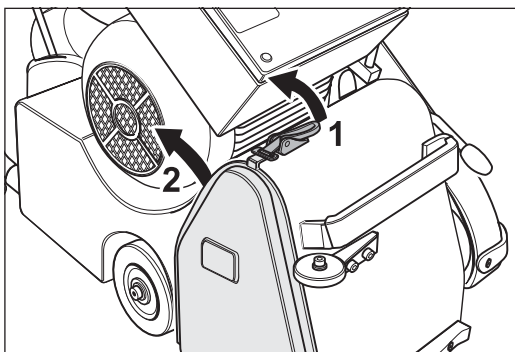

Fig. 75 Release the cover lock (1) and remove the side cover (2).
- 3 Release the cover lock (fig. 75, 1) and remove the side cover on the right of the machine housing (fig. 75, 2).